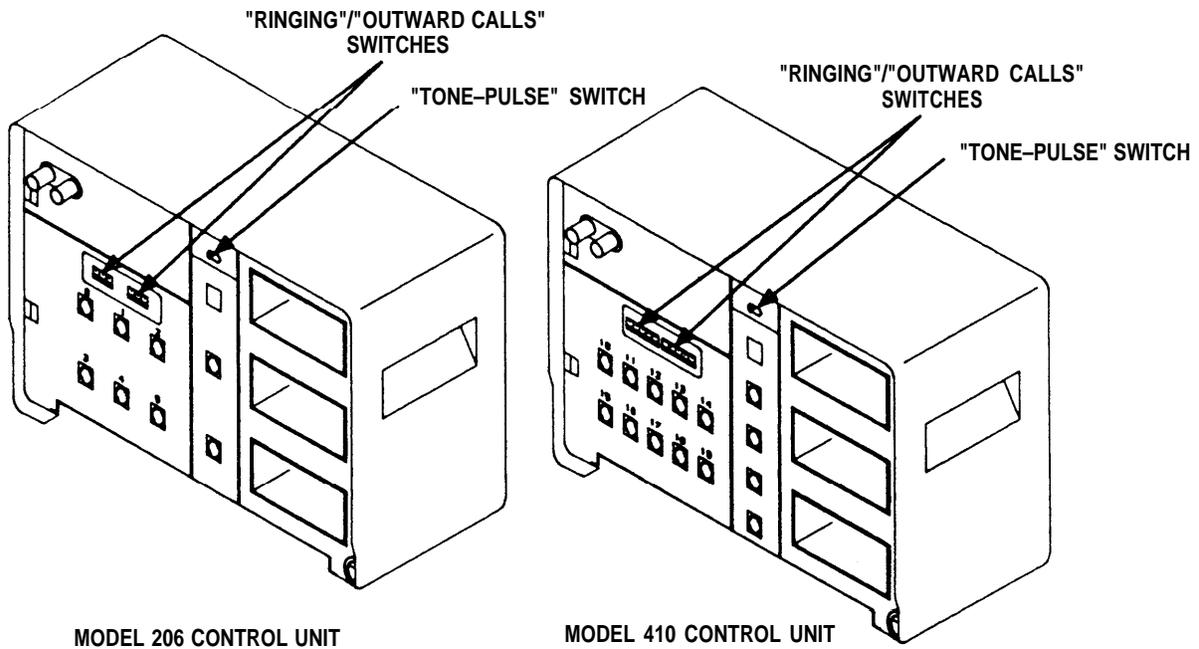

Figure 8
Your local telephone exchange service company requires your system to send out either "TOUCH-TONE® dialing signals" or "rotary dialing pulses". The "Tone-Pulse" switch on the control unit (Figure 8) determines the type of signal that your system sends. Call your local telephone exchange service company if you do not know what signals your system is expected to send out.
- If you have Basic Service, the “Ringing” switches (Figure 8) control ringing on their associated voice terminals.